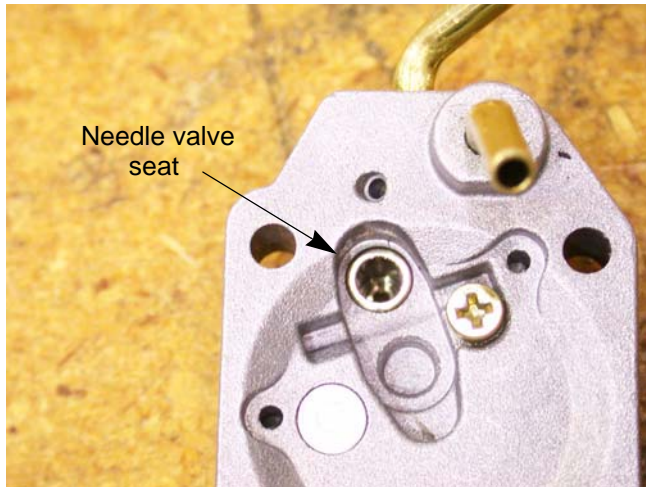

Figure 5.25
4. If the needle valve seat is damaged, replace the carburetor. See Figure 5.25.